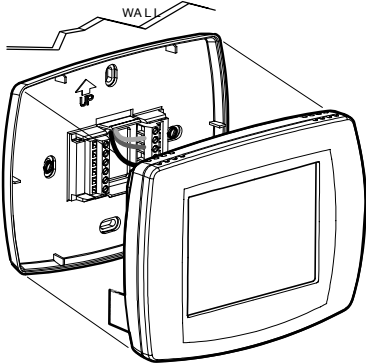

Figure 14 - Mount Thermostat to Wallplate.
2. Push the thermostat straight onto the wallplate until it snaps into place (see figure 14).